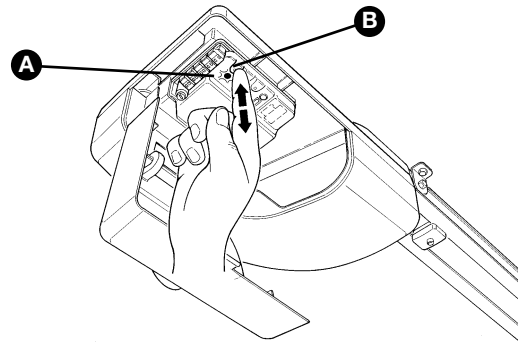

Figure 86
- 1 Press the P1 button **[B]** (figure 86) on the control unit and hold it down.